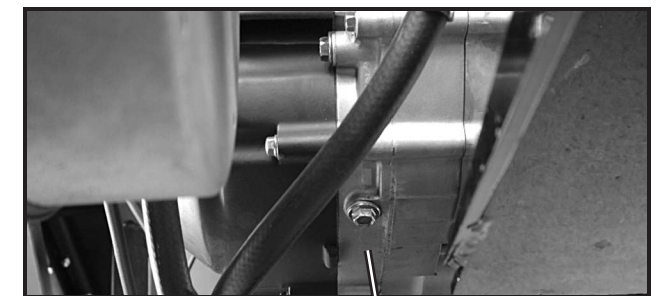

Figure 15 Transmission Drain Plug
1. Run SCOUT vehicle for at least five (5) minutes or until warm. Turn off unit and remove the ignition key.
3. Remove the transmission drain plug (located under rear of sprocket shaft) (Figure 15). Let drain complete.